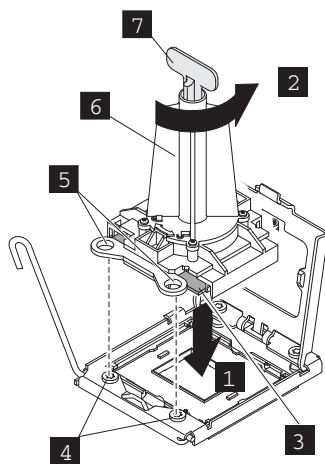

Figure 304. Inserting the microprocessor into the socket
- h. Align the triangular alignment mark (**4** in Figure 304) on the microprocessor installation tool with the triangle alignment mark on the microprocessor. Then, place the microprocessor on the underside of the tool so that the tool can grasp the microprocessor correctly onto the bottom of the installation tool.